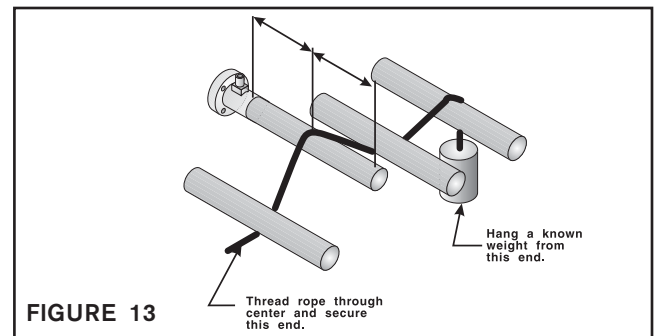

FIGURE 13
1. Thread a rope or narrow web over the Sensor Roll in the normal path. Be sure the rope or web is at the center of the Sensor Roll; then, hang a known weight (within the tension range of the system) on one end of the rope or web (Example: Maximum tension = 100 Lbs., hang a 50 Lb. weight) (See Figure 13).